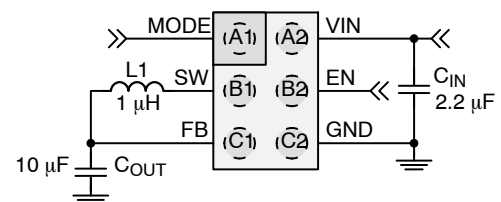

Figure 1. Typical Application
**Table 2. RECOMMENDED COMPONENTS FOR CIRCUIT IN FIGURE 1**
(Minimum and maximum values are at  $V_{IN} = V_{EN} = 2.7\text{ V}$  to  $5.5\text{ V}$ ,  $V_{MODE} = 0\text{ V}$  (AUTO Mode),  $T_A = -40^\circ\text{C}$  to  $+85^\circ\text{C}$ ; circuit of Figure 1, unless otherwise noted. Typical values are at  $T_A = 25^\circ\text{C}$ ,  $V_{IN} = V_{EN} = 3.6\text{ V}$ ,  $V_{MODE} = 0\text{ V}$ ,  $C_{OUT} = 10\text{ }\mu\text{F}$ .)